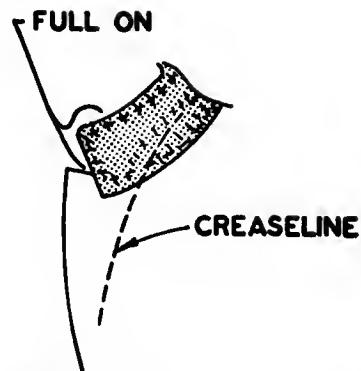

Fig. 199. Checking the shape.
- C. Baste around the edges, rolling over the fingers, fulling in slightly at the corners. This allows the collar to lie flat when finished. Check the shape (Fig. 199).